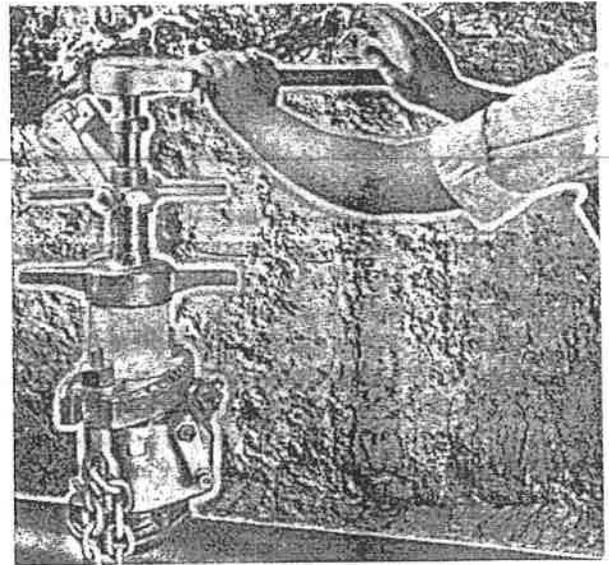

FIGURE 20
2. Turn the ratchet handle **counter-clockwise** to take out the play and strike the end of the handle a sharp blow **counter-clockwise** with palm of the other hand. FIGURE 20. This will release the threaded connection between the screw plug and the stop, tee, or plug. If using an E-Z Release screw plug, this will release the threaded connection between the two parts of the screw plug.